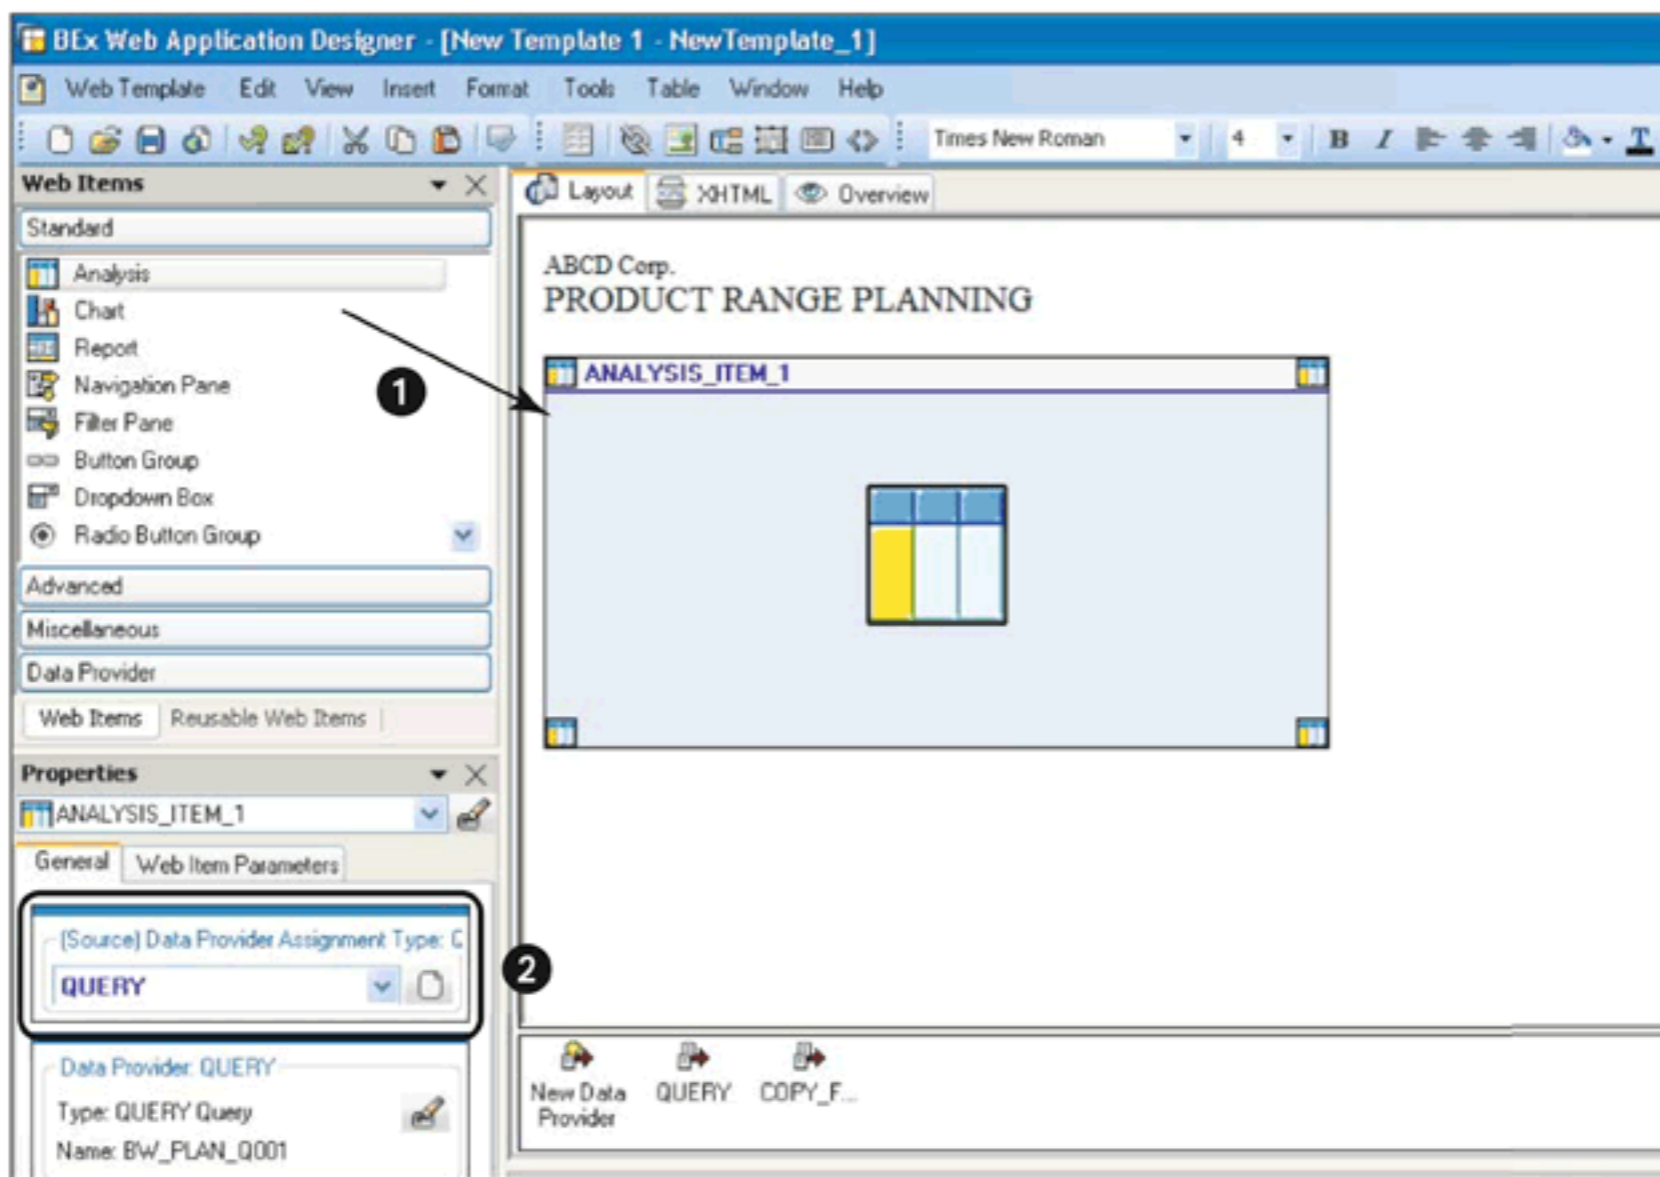

Figure 12.76 Add Analysis Web Item
Drag and drop the ANALYSIS web item into the web template (1 of Figure 12.76). We'll use this web item to create the manual planning layout based on the input-ready query in the application. Assign the QUERY data provider, which you created in previous steps, to the ANALYSIS item (2).